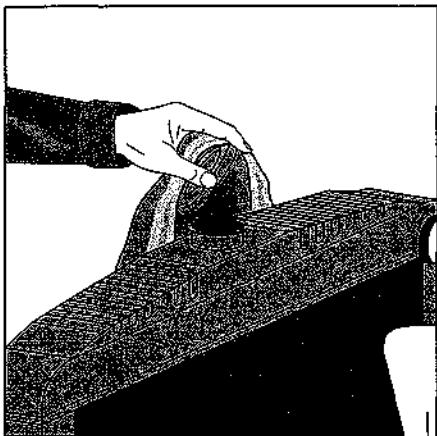

Figure 14-1:
To keep from burning your hand, place a cloth over the cap after you raise the lever (see Figure 14-1).
2. **Tilt the cap as you remove it so that the opening points away from you (and anyone else nearby) — again, see Figure 14-1.**